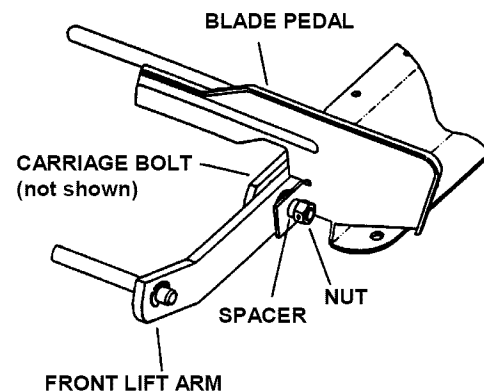

FIGURE 4.6
7. Move one side of the deck up or down to achieve levelness between both sides of deck. See Figure 4.6.